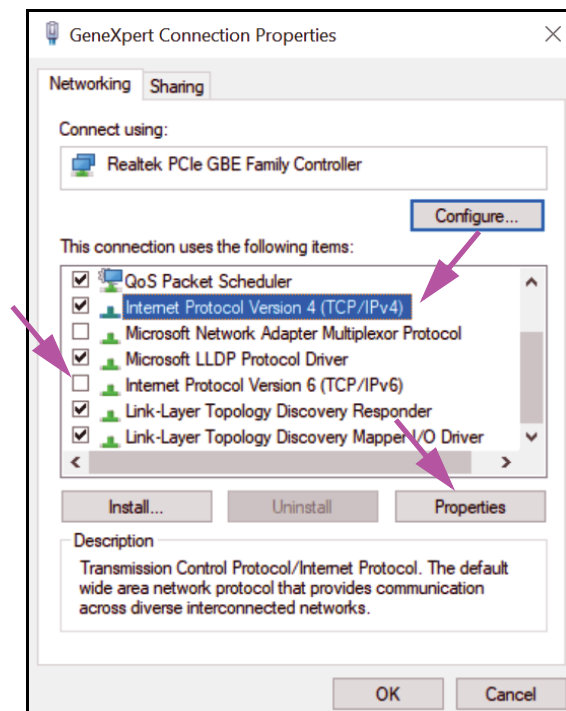

Figure 2-19. GeneXpert Connection Properties Screen
7. Select **Properties** from the drop-down menu. The screen shown in Figure 2-19 is displayed.
- On the GeneXpert Connection Properties Screen (shown in Figure 2-19) uncheck the box next to **Internet Protocol Version 6 (TCP/IPv6)**. Highlight **Internet Protocol Version 4 (TCP/IPv4)**, and then click **Properties**. The Internet Protocol Version 4 (TCP/IPv4) Properties screen appears.